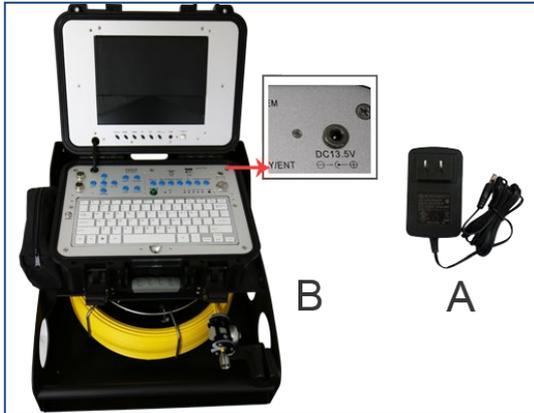

Figure 2
- 1) Plug the charger into the AC socket on the wall and insert the other end into the DC jack (See Figure2- A).